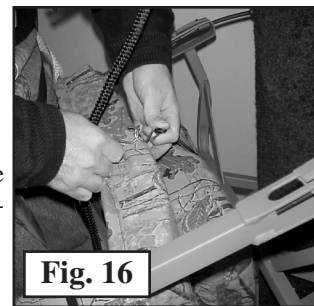

Fig. 16
Step 2. Disconnect the elastic cord that has been holding the Viper Classic Seat in place and fold the seat up. Secure the backrest and seat as shown in **Figure 16**. Disconnect the strap that has held the seat in place against the tree.